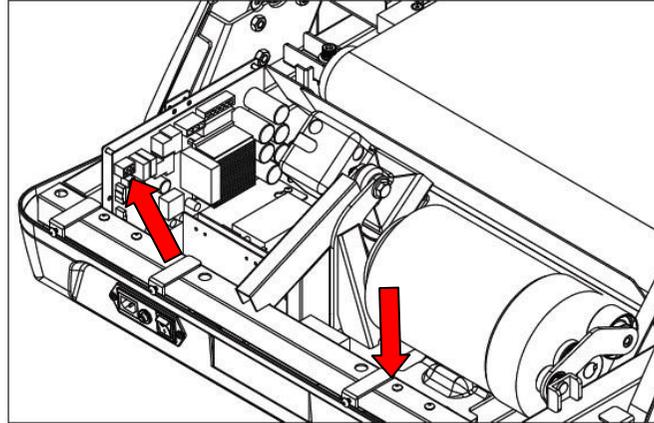

Figure 4.7.5
4) As shown in Figure 4.7.5, replace the incline motor and connect to all wires accordingly.